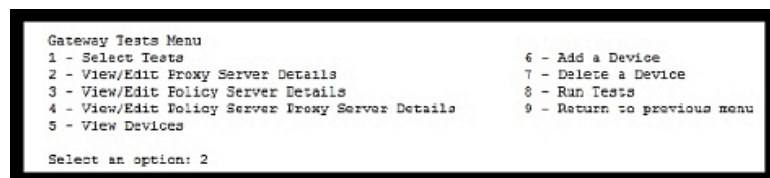

Figure 179 Gateway Tests Menu
2. Select option 2. The Gateway Tests Menu appears, as shown in Figure 179 on page 142.